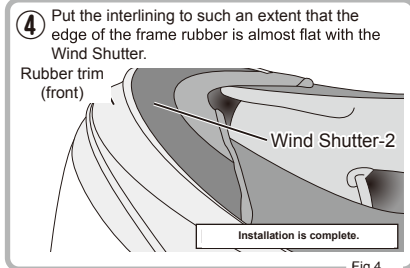

Fig.4
④ Put the interlining to such an extent that the edge of the frame rubber is almost flat with the Wind Shutter. The attachment of the Wind Shutter is complete (Fig.4).